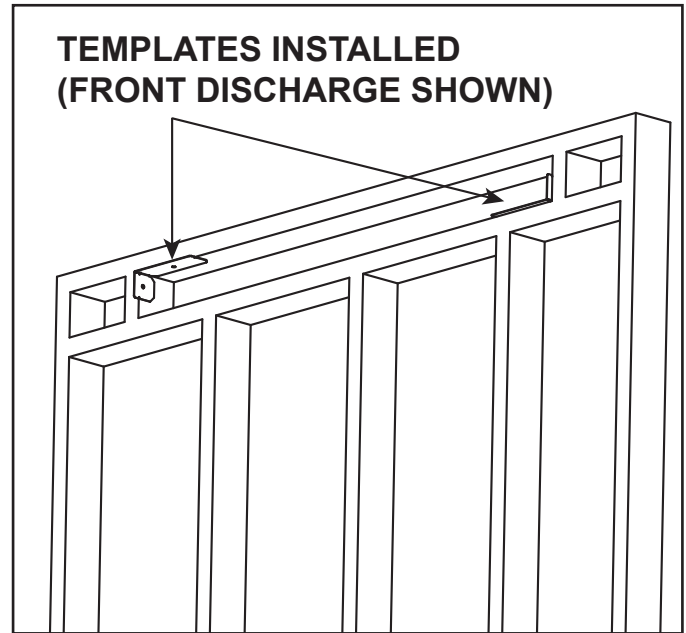
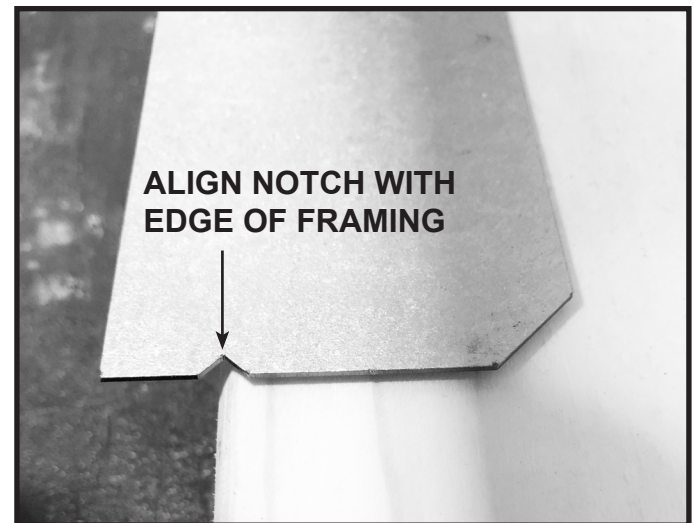

Figure 18 Template Installation
Figure 19 Template Notch Alignment
2. Place one template into the top left corner of the discharge opening as shown in Figure 18. Align the outside edge of the framing with the notch in the template as shown in Figure 19. Attach to framing using wood screws.